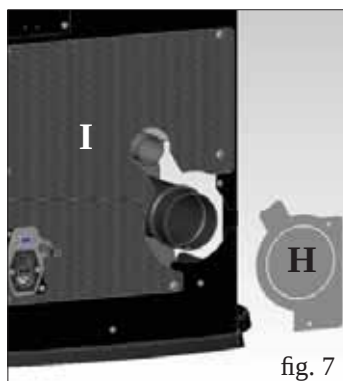
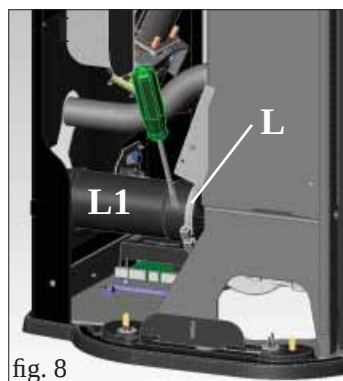

fig. 7
fig. 8
- Close the door and remove the plating profiles on the back (G - fig. 7).
- Take the glass sides off (H - fig. 8) and remove the protection
- Remove the supported glass top (H - fig. 7).
- Remove the side steel, fixed to the structure of the stove with 2 screws (X - Fig. 7) to remove, pulling it upwards (I - Fig. 8)
- Remove the diaphragm (H - fig. 7) and, if necessary the perforated lower rear panel as well (I - fig. 7).
- Slacken the clamp (L - fig. 8) and remove the outlet flue pipe (L1 - fig. 8).